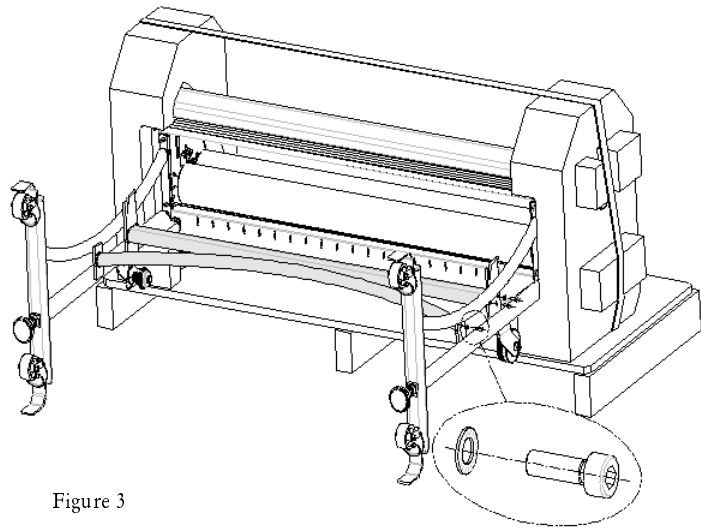

Figure 3
- Now mount the middle support section between the left-hand and right-hand stand legs, as shown in Figure 3.